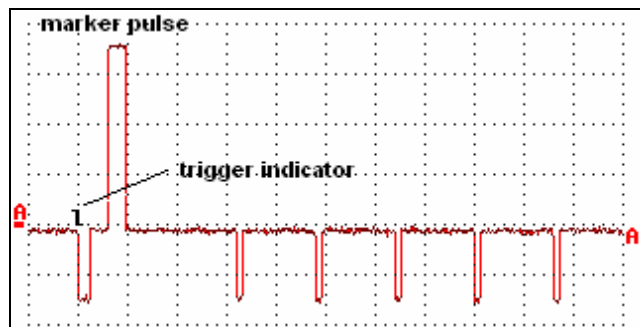

Figure 4-20. SC600 Marker Pulse
4. Observe the trace, and check to see if the Test Tool triggers on the negative pulse before the marker pulse (see Figure 4-20).